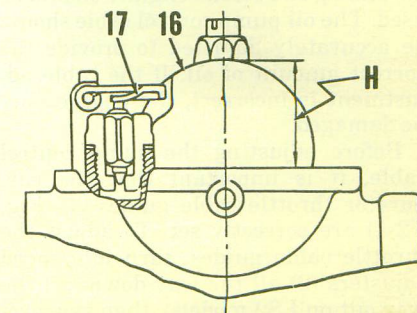

Fig. Y2-2—Float level (H) is adjusted by bending tang (17).
mixture. Carburetors must be synchronized to open exactly the same amount by turning cable guides (1) on top of carburetors. Float level (H—Fig. Y2-2) should be 23MM (0.906 in.) and is adjusted by bending tang (17) on float. Refer to Fig. Y2-1 and the following standard specifications: